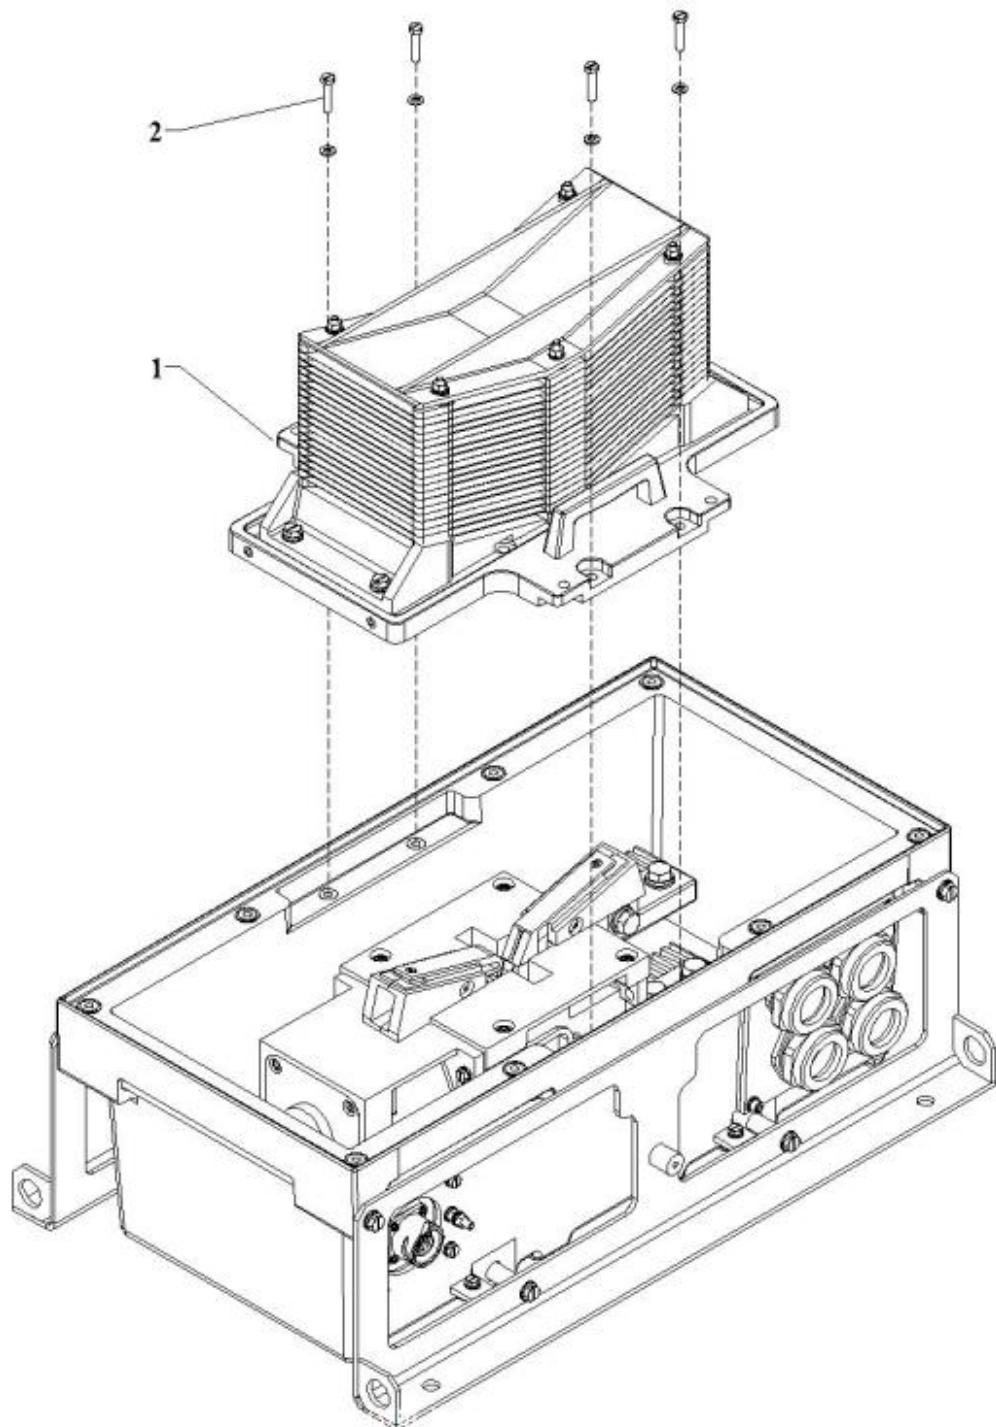

Figure 5-7: HSCB Arc Chute Removal
4. Remove the arc chute / de-ionizing plates (1) as shown in Figure 5-7 by removing the four mounting bolts (2) along with the flat washers and lock washers.
2. If not already done, remove the arc chute / de-ionizing plates (1) as shown in Figure 5-7 by removing the four mounting bolts (2) along with the flat washers and lock washers.
5. Mount the arc chute / de-ionizing plates (1) as seen in Figure 5-7. Tighten the M8 x 4 bolts, washers, and lock washers (2) to 14 Nm (10.3 ft-lbs.).